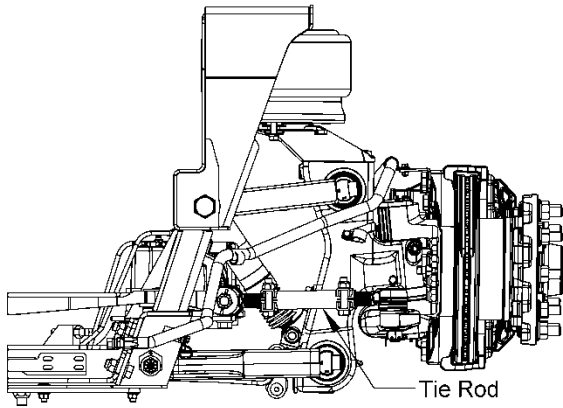

Figure 6- Tie Rod
1. With the engine on, lightly rock the steering wheel and have an assistant observe any looseness in the two mating tapers or any movement of the stud nut at both ends of the Tie Rod (**Figure 6**). If looseness is found in either place go to step 2, otherwise skip to step 3.
3. With the engine off and the wheels steered straight ahead, grab the Tie Rod near its end and try to move the socket in a direction parallel to the ball stud axis (**Figure 6**). Be sure to only apply hand pressure to the Tie Rod.
6. Check Tie Rod Clamp orientation (**Figure 6**). Clamp bolts need to be on the rear head down with the nut on the top side of the clamp. Insure clamps are installed within 1/16" from end of Tie Rod Tube.